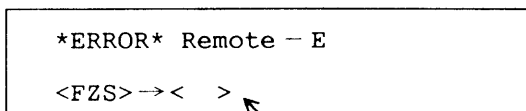
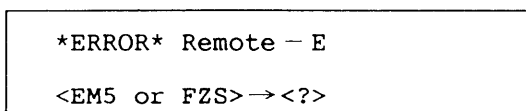

Fig. 1
Fig. 2
If the error message shown in Fig. 1 or Fig. 2 appears when trying to transmit a DSC message by pressing the **CALL** key, do the following. (Message is not transmitted.)
1. After the error message shown in Fig. 1 appears, set the DSC frequencies at the radiotelephone side manually.